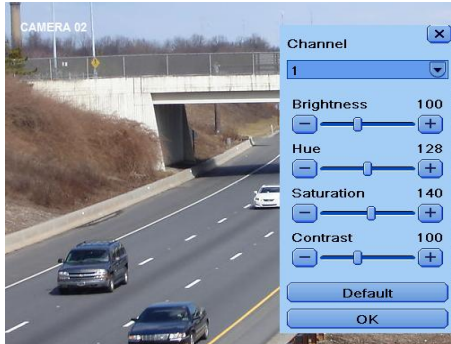

Fig 4-7 Live-Color Adjustment
- ① Click “Setting” button for a particular camera/channel to see a window as Fig 4-7.
- ② In this interface, you can adjust brightness, hue, saturation and contrast in live. Click